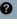

**Figure 3-18: Main elements of the graphical user interface (GUI)**
The **"Context Menu"** button calls specific functionality for any of the menu items shown above and listed as (1) to (4) in Figure 3-18. Hence, this button is always used **together** with one of the other buttons.
The status bar is shown on top in Figure 3-17 and Figure 3-18. The various indicator icons have the following meanings: